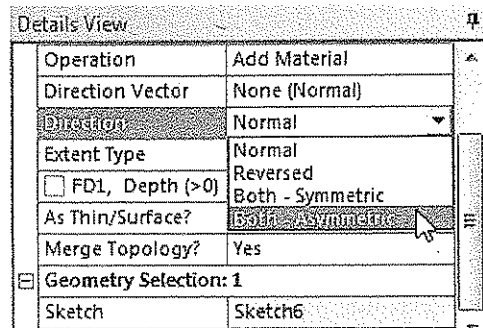

Figure 5-52 Selecting the *Both-Asymmetric* option from the *Direction* drop-down list
48. Select the **Both - Asymmetric** option from the **Direction** drop-down list, as shown in Figure 5-52; the **Extent Type 2** drop-down list along with the **FD4, Depth 2 (>0)** edit box is added to the **Details View** window.